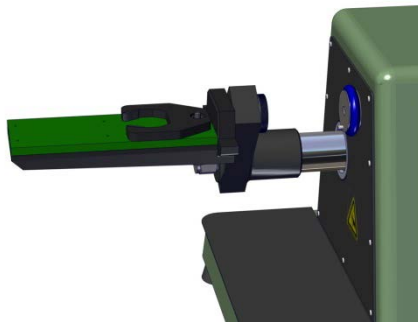

Figure 5.8.1
2. Gently slide the threaded boss of tensile accessory base onto the moveable clamp arm (Figure 7.3, Item 12) of the strength machine. Replace the knurled screw and hand tighten to attach the tensile accessory base to the moveable clamp arm (see Figure 5.8.1).